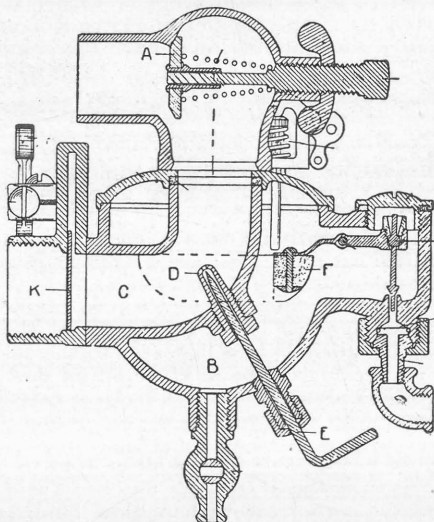

Fig. 4.
Fig. 4 shows a design of carburetter that is very often used on two-stroke engines. The float chamber (B) is bowl-shaped, and has a cork float (F), which lets in petrol through the needle valve (I). It will be seen that this arrangement is even more like the ball-cock of a cistern than that shown
We will now return to Fig. 4. The jet (D) is also inside the float chamber, and is screwed into the inlet pipe (C), so that air passing over it sucks petrol through. There is also a needle valve (E) used to regulate the size of the jet. If the drawing be looked at closely it will be seen that there is room for petrol to flow past the needle to the jet, but that the point of the needle can be screwed right into the small